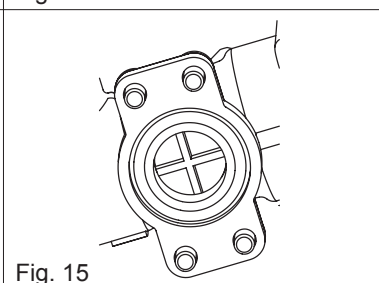

Fig. 15
- Insert the valve and the large spring, taking care with the direction of the insertion (fig. 16) and making sure that the drilled spring guide disc is in its correct position (fig. 15)